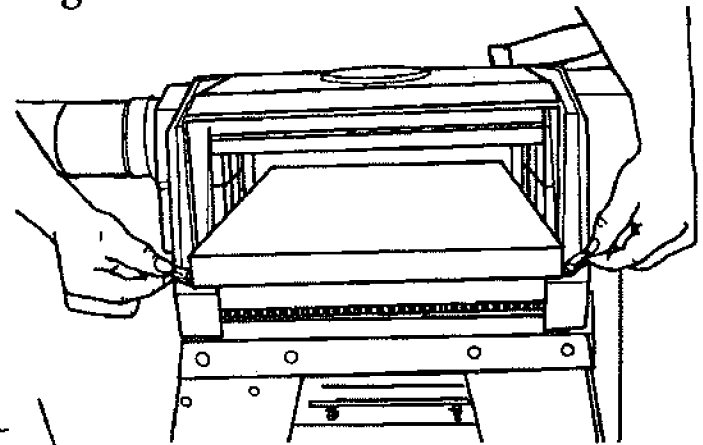

Fig. 43
54. Rotate the two hold-down latches (16) downward, as shown in Fig. 43.